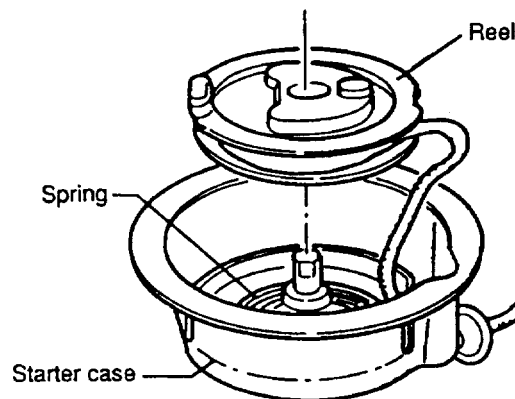

Figure 6-31 Recoil starter reel
- 4) Remove the reel from the starter case as shown in Figure 6-31. Take out the reel slowly while turning it lightly to the left and right to remove the spring. Take care not to take out the reel quickly. Otherwise, the spring may jump out its housing' (if the spring runs out of position, put it in the starter case as described in Paragraph 6.5.2).